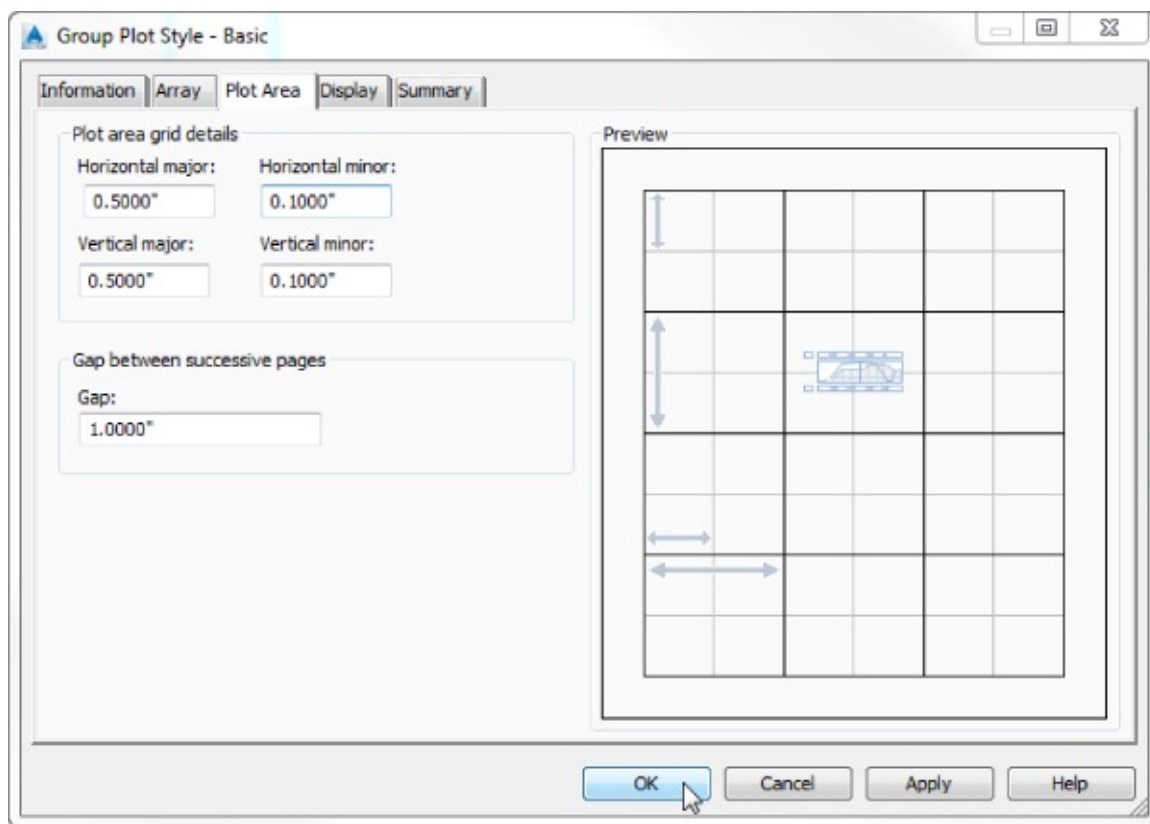

Figure 19.64 Grid spacing on sheets is specified on the Plot Area tab.
5. On the Plot Area tab, leave all the default settings, as shown in Figure 19.64.